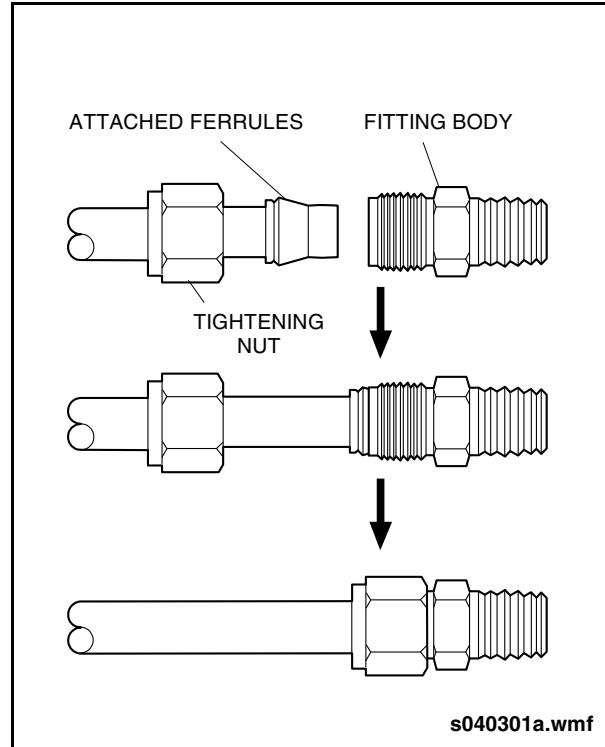

Fig. 7-33: Retightening Previously Connected Fitting
4. Make sure the tubing bottoms against the inner shoulder of the fitting body. Finger tighten the nut. See "Fig. 7-33: Retightening Previously Connected Fitting" on page 81.